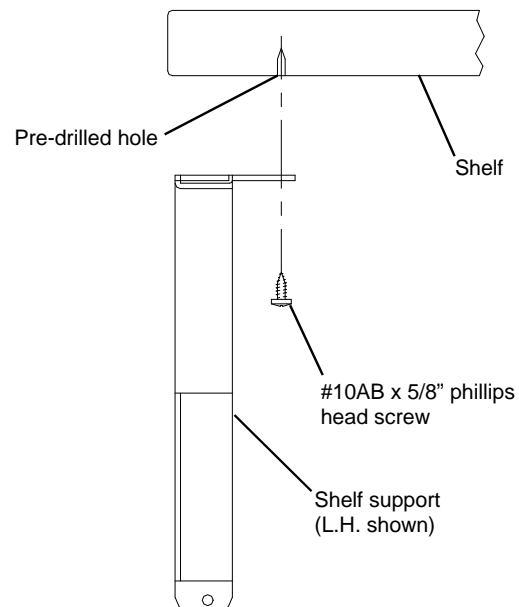

Figure 2
4. Fasten the shelf to the left hand and right hand supports using the four #10AB x 5/8" long screws provided. See **Figure 2**.